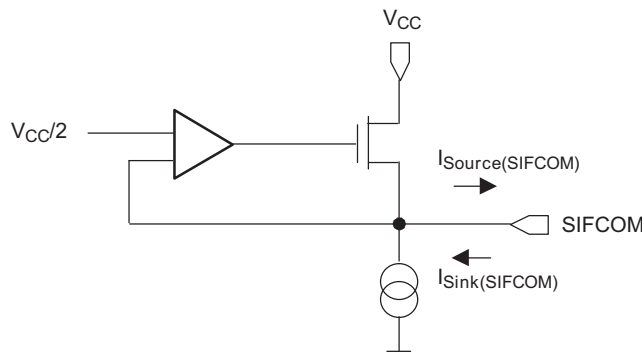

Figure 20. P6.x/SIFCHx Timing, SIFCHx Function Selected
| $I_{source}(SIFCOM)$ | SIFCOM source current ⁽¹⁾ (see Figure 20) | 2.2 V | -500 | | | μA |
- (1) The sink and source currents are a function of the voltage at the pin SIFCOM. The maximum currents are reached if SIFCOM is shorted to GND or V_{CC} . Due to the topology of the output section (see Figure 20) the $V_{CC}/2$ generator can source relatively large currents but can sink only small currents.